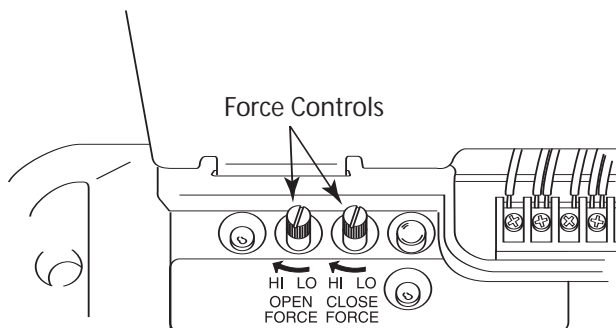

Figure 34 Making Force Adjustments
- A** Pre-set Force Controls to midpoint between fully counter clockwise and fully clockwise (Figure 34).